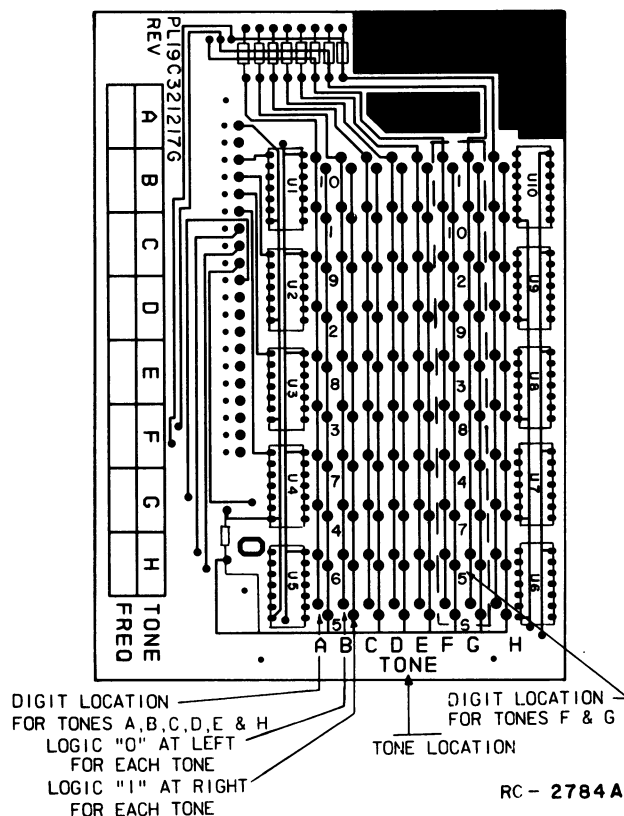

Figure 1 - Program Board Nomenclature
2. The tone location (columns A-H) are marked on the board (refer to Figure 1). The hole pairs in each column are also marked. For example, hole pairs for tone A are marked as follows: top hole pair is digit 10, followed down the column by digits 1, 9, 2, 8, 3, 7, 4, 6, 5. All tone columns are numbered in this manner except columns F and G. The top hole-pair in columns F and G is numbered digit 1, followed by 10, 2, 9, 3, 8, 4, 7, 5, 6.
3. If a binary "0" is required in the digit code, the left hole in a hole-pair is drilled out. If a binary "1" is required, the right hole in a hole-pair is drilled out. Refer to Figure 1.